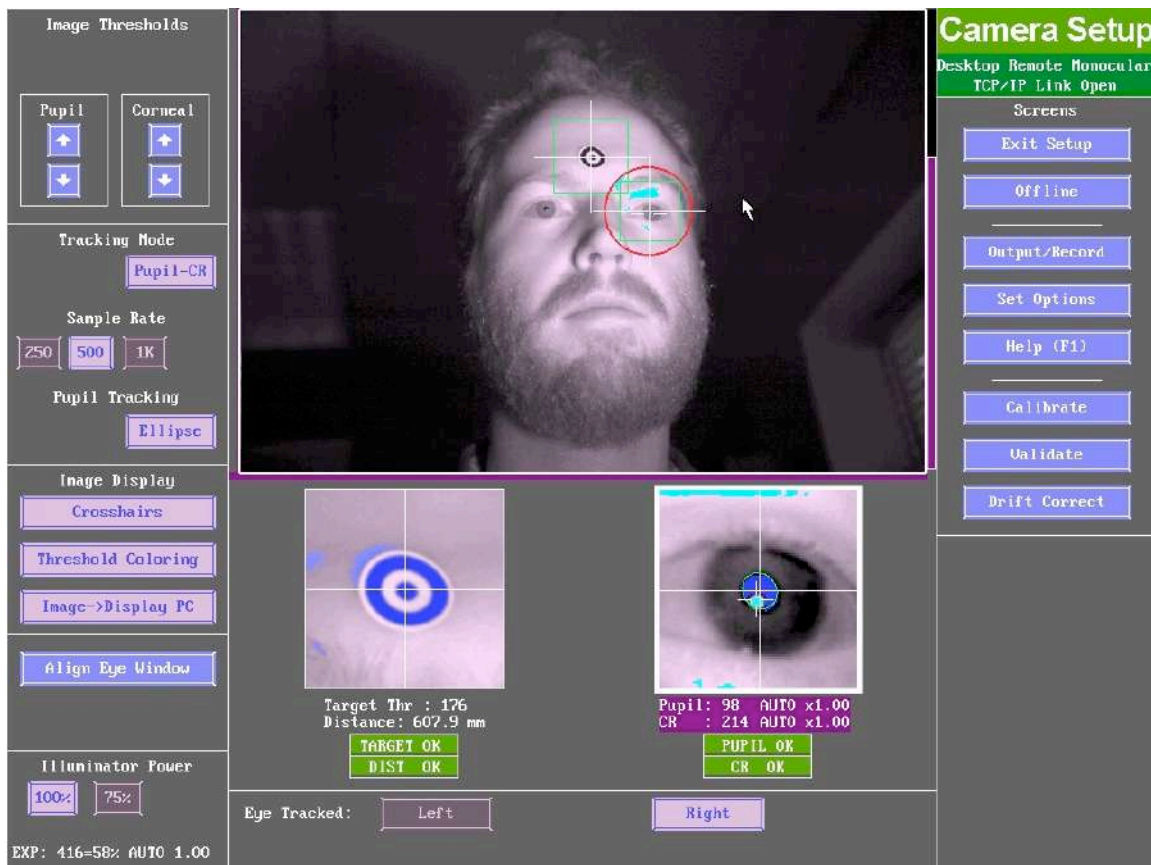

Figure 3-6: Camera Setup Screen with the Monocular Remote Mode
- 6) Go to the Camera Setup screen. Make sure the lens cap has been removed. A camera image should now be displayed in the global view of Camera Setup screen. Ask the participant to be seated. Adjust the height of the chair so that the participant is comfortable and his/her line of sight is to the top 25% of the screen. Adjust your mount position so that the eye to be tracked appears in the center of the global camera view (see Figure 3-6).